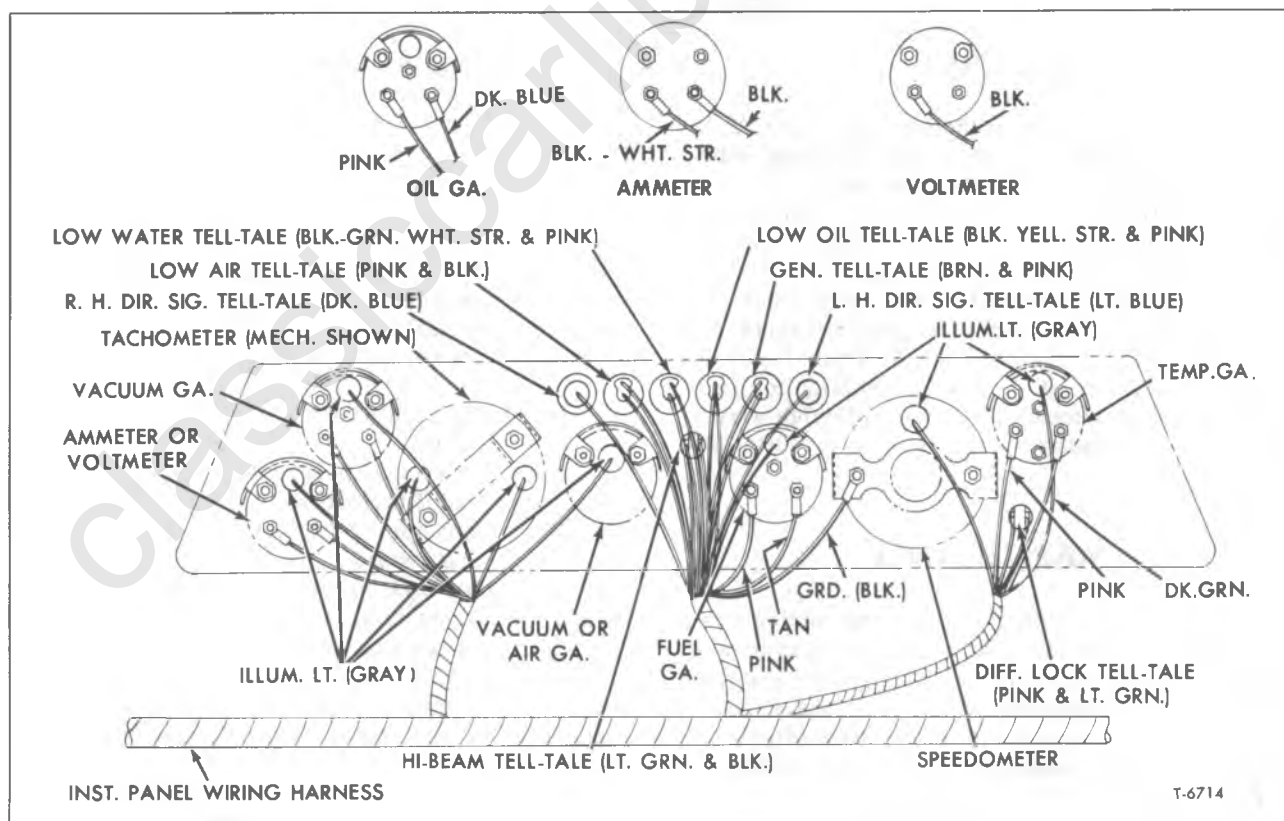

Figure 12—Connections at Rear of Instrument Cluster (Tilt Cab Models) (Typical)
1. Disconnect negative battery cable from the battery, then disconnect wiring harness connectors from under dash panel. Refer to figure 12 for wiring connections at rear of cluster.
NOTE: Refer to figure 12 for wiring connections at rear of cluster.